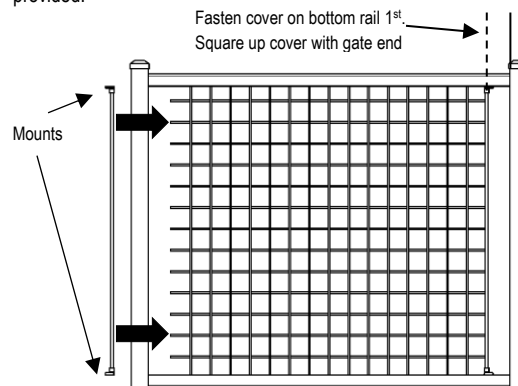

Fig 5
6. Place mounts on the end of wire mesh end covers (Fig 5). Place covers over the end of wire mesh panel and fasten bottom mount 1st with 2 screws provided. **Make sure the cover is square with gate sides** and fasten top mount with 2 screws provided.